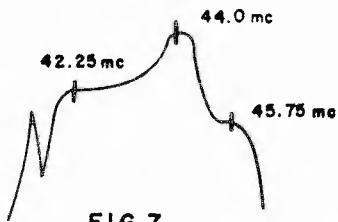

FIG. 7
15. Maintain generator output to produce approximately 0.2 volts P-P indication on the oscilloscope (as above) and adjust the grid coil (L-5) to center the 44.0 mc marker on the peak of the response as indicated in Fig. 7, disregarding the tilt of the overall waveshape.